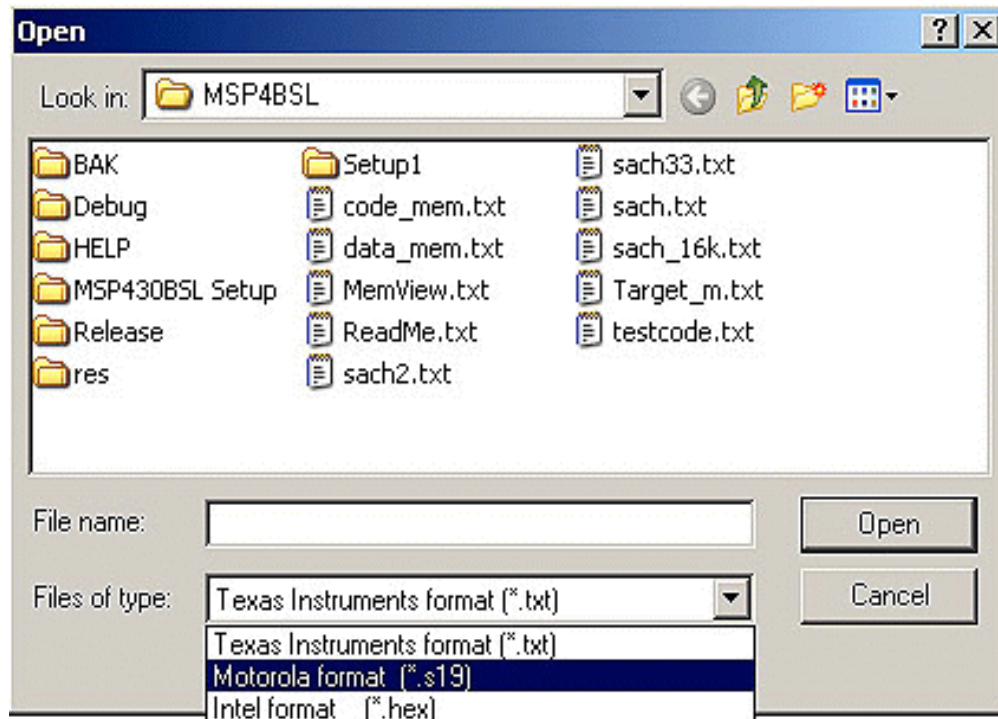
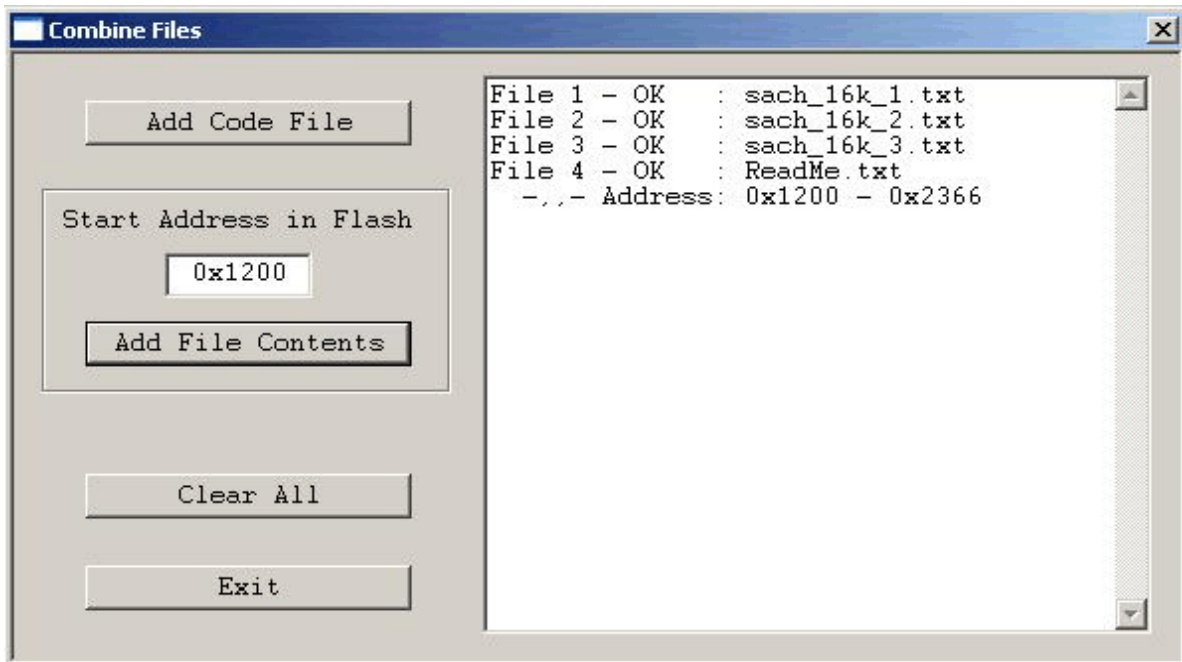

Figure 4.2-1
Figure 4.2-3
The **Open Code File** button, or the **Open Code File** from the **FILE** pull down menu, prompts for opening the object file that contains the code data, as shown in Figure 4.2-1. When the file is selected the contents of the object file are downloaded into the PC memory. If the selected microcontroller does not have enough memory to fit the data contained in the code file, the warning message in Figure 4.2-2 will be displayed.
4.2-1. Every appended file will be verified, so that the total code size does not exceed the target microcontroller's memory space and that there is no overlap with previously selected code segments. After the addition of each file the window in Figure 4.2-3 will be shown. The window shows the status of previous append operations.
The Programmer is also able to append files of any type to the new data block. In order to do this the user must specify the memory location into which the programmer is to load the file and then press the **Add file contents** button. The window in Figure 4.2-1 will appear prompting the user to specify the file to be added. Once the file is added to the new memory block, the programmer will display the memory space occupied by the selected file. An example of this is shown in Figure 4.2-3 for the file number 4.